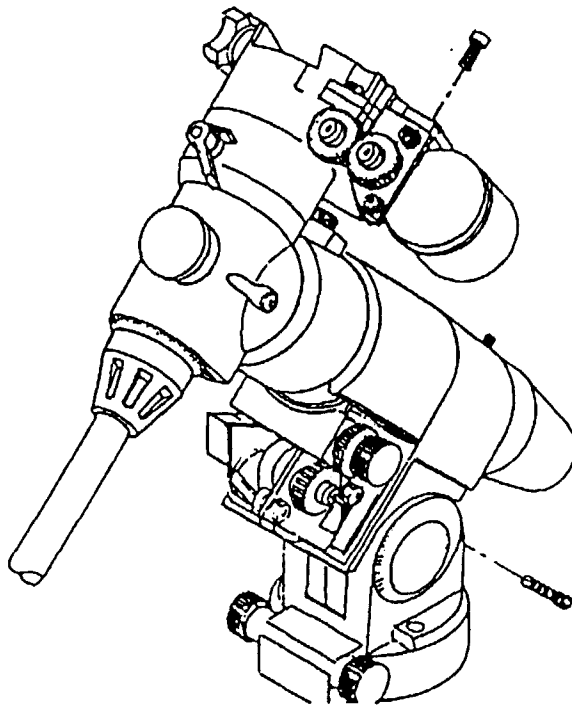

Figure 3
5. Insert the 1/4-20 screw through the top of the Mount and thread it into the DEC bracket (see figure 3).